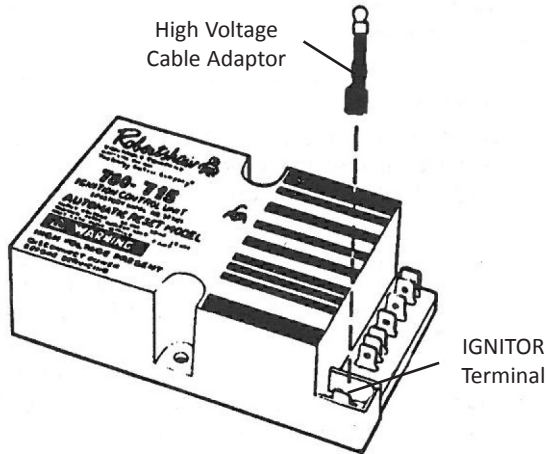

Figure 3
7. Locate the high voltage cable adaptor included in the kit. Attach it to the IGNITOR terminal on the new ignition module. See Figure 3.